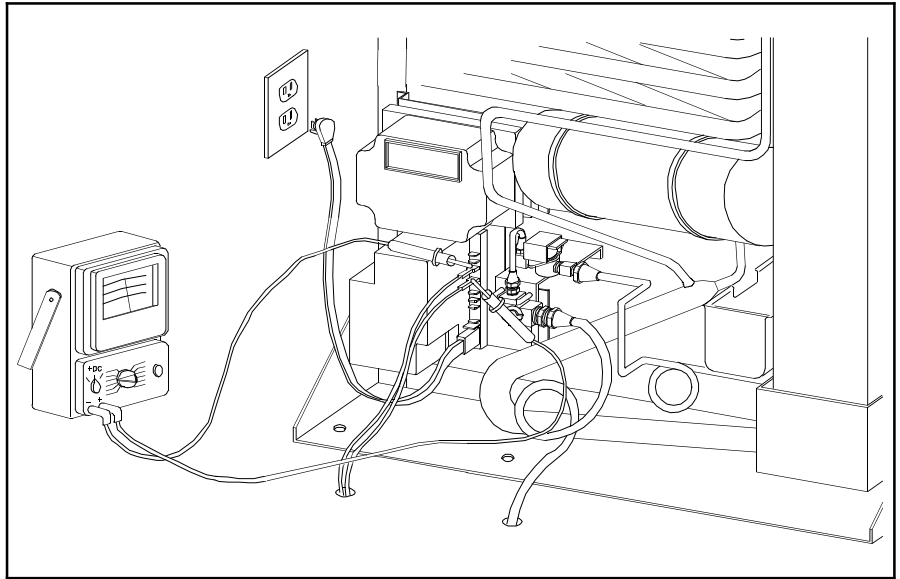

Figure 11.21 12 Volt DC Supply Check
1. Using a volt-ohm-meter, check for + 12 volts DC at terminals J3 and J4 and as shown by Figure 11.21. If you do not have 12 volts as shown, repair the 12 volt source.